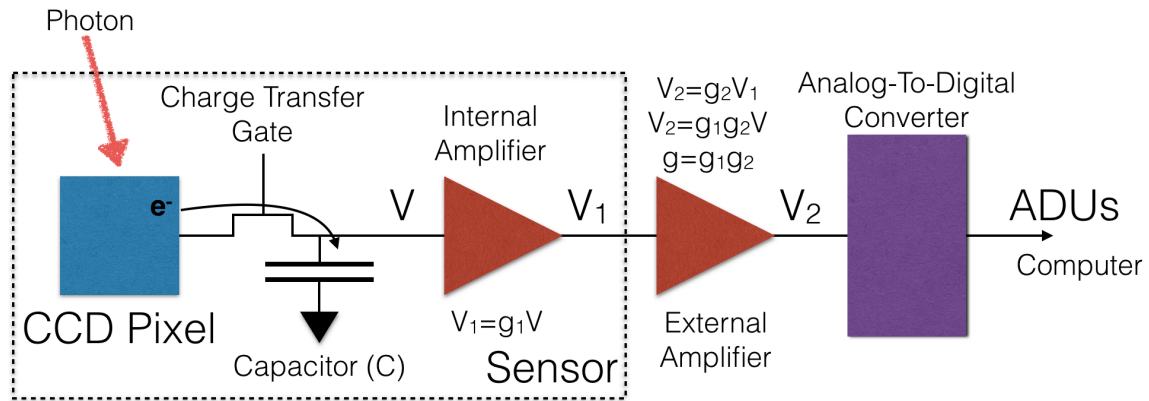

Figure 1: Analog signal chain for a CCD sensor.
The digital signal is recorded in units known as analog to digital units (ADU) after being amplified by both the sensor and the camera electronics as shown in Figure 1. Assuming that the measuring circuits are linear there is a linear relationship between ADU and the number of photoelectrons collected; this constant of proportionality is known as the **gain**. The entire CCD array is automatically reset before the start of an exposure by clearing any remaining charge built up on the sensor. This establishes a well-defined charge state at the start of the subsequent exposure.
- **Gain** the gain of the ADC can be commanded and is variable from 0 to 24dB. This adjusts the external amplifier in the signal chain (Figure 1), and therefore the sensitivity and also the dynamic range of the camera.